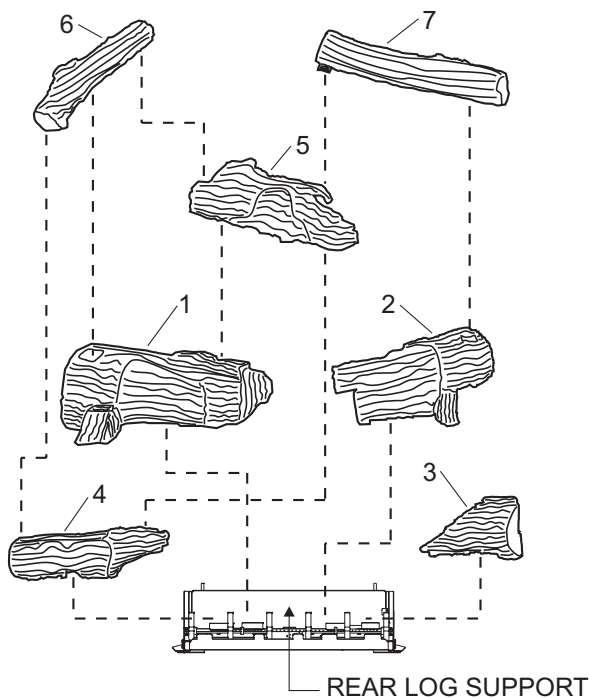

Figure 1
Refer to Figure 1 for the following warning.
**ATTENTION:** Do not use Figure 1 to order replacement logs. Refer to Log Identification LS18WRS on Page 6, or Log Identification LS24WRS on Page 7, or Log Identification LS30WRS on Page 8 to order logs for your appropriate model number.